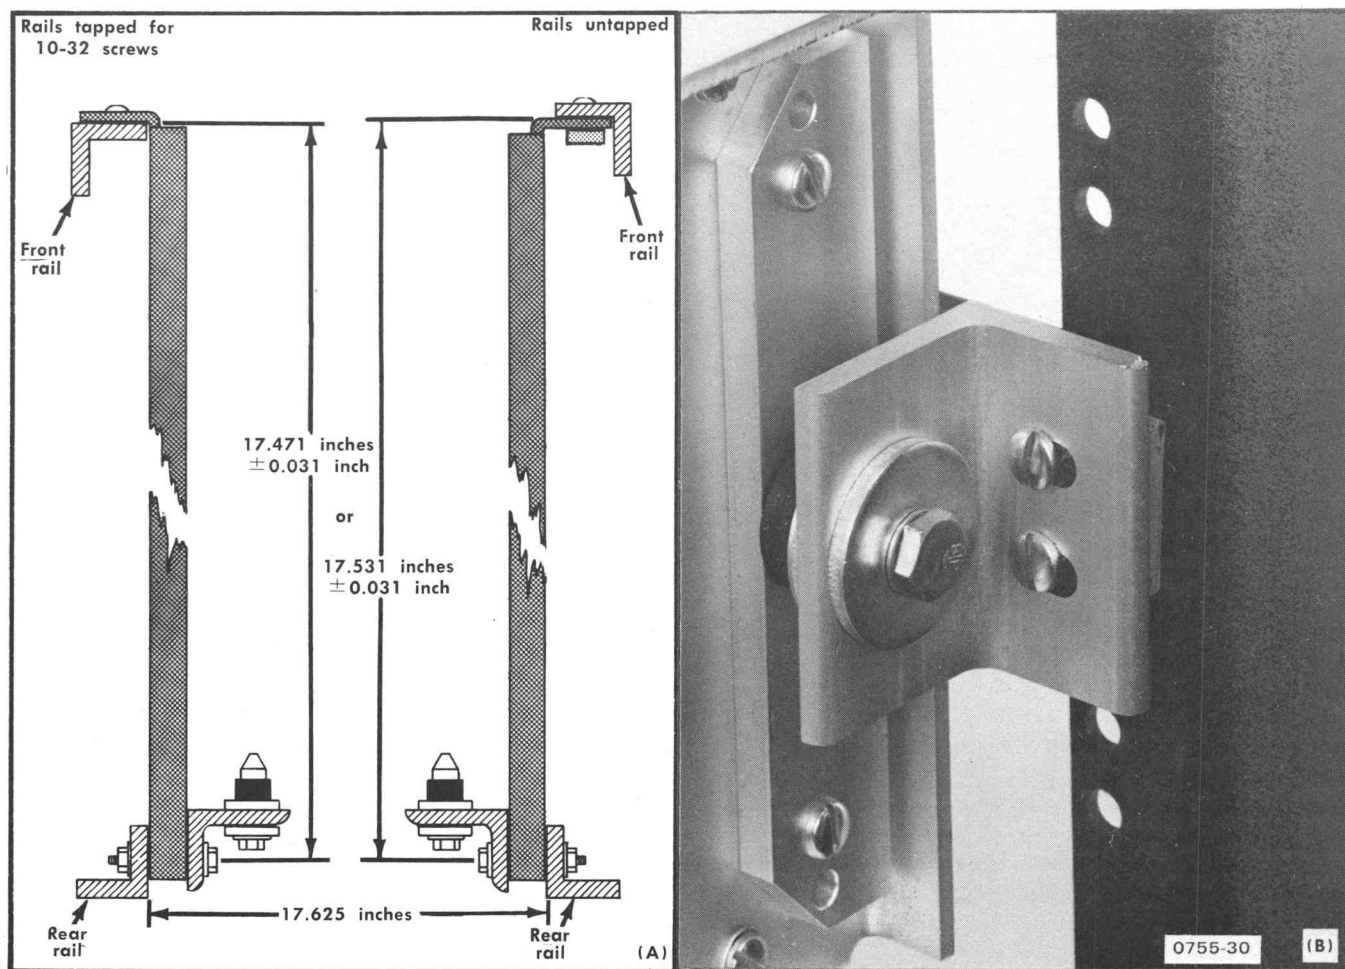

Fig. 4-11. Supporting the rear of the stationary sections: (A) Dimensions necessary; (B) Completed installation.
The mounting flanges of the stationary sections may be mounted in front of or behind the front rails of the rack depending on the type of rack. If the front rails of the rack are tapped for 10-32 screws, the mounting flanges are placed in front of the rails. If the front rails of the rack are not tapped for 10-32 screws, the mounting flanges are placed behind the front rail and a bar nut is used. Fig. 4-11 shows these methods of mounting the stationary sections.
The rear of the stationary sections must be firmly supported to provide a shock-mounted installation. This rear support must be located 17.471 inches, ± 0.031 inch, from the outside surface of the front rail when the mounting flange is mounted outside of the rail, or 17.531 inches, ± 0.031 inch, from the rear surface of the front rail when the mounting flange is mounted behind the front rail. If the cabinet rack does not have a strong supporting member located the correct distance from the front rail, an additional support must be added. The instrument will not meet the environmental specifications unless firmly supported at this point. Fig. 4-11 illustrates a typical rear installation using the rear support kit and gives the necessary dimensions.
1. Select the proper front-rail mounting holes for the stationary section using the measurements shown in Fig. 4-11.